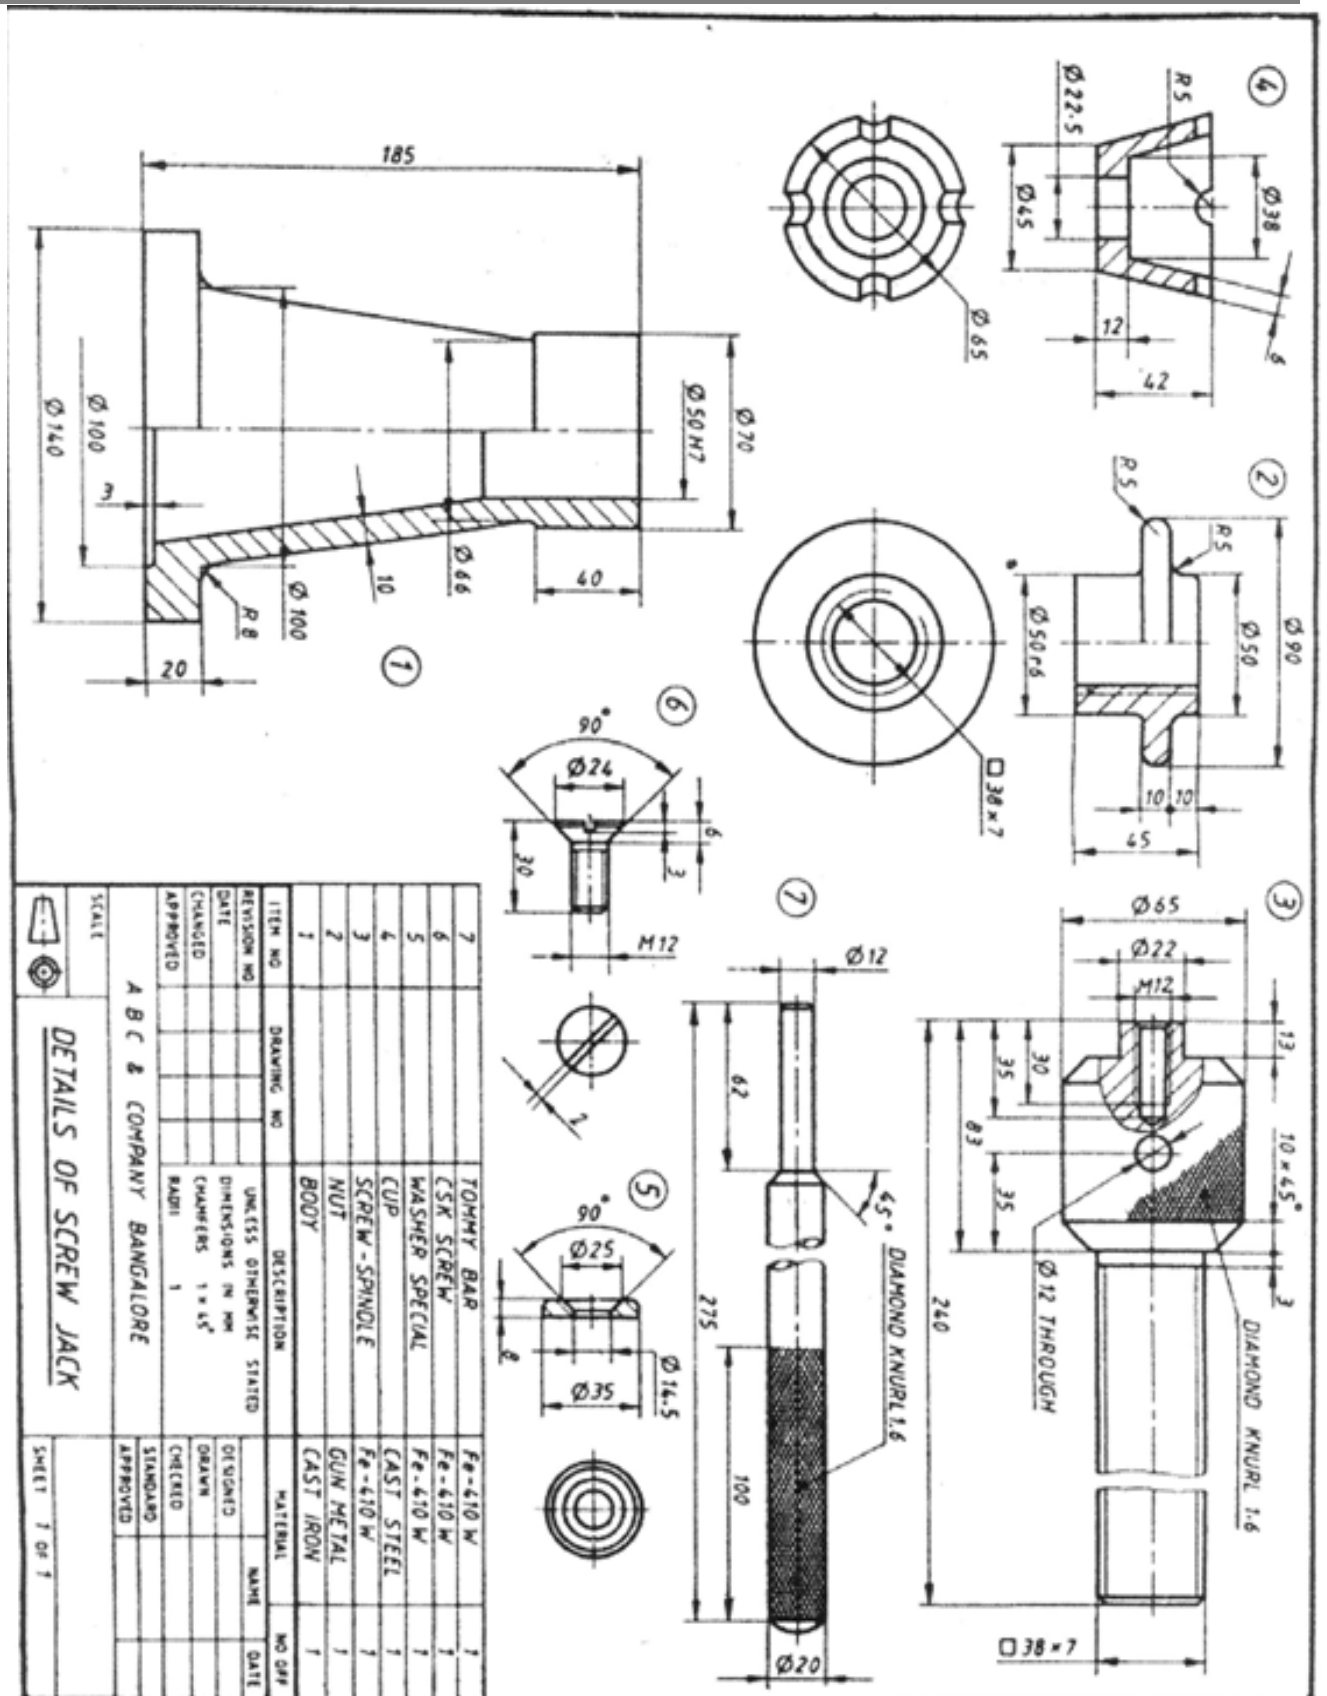

Figure 2 SCREW JACK
6. Figure 2 shows the details of 'SCREW JACK'. Assemble the parts and draw the following views of the assembly.